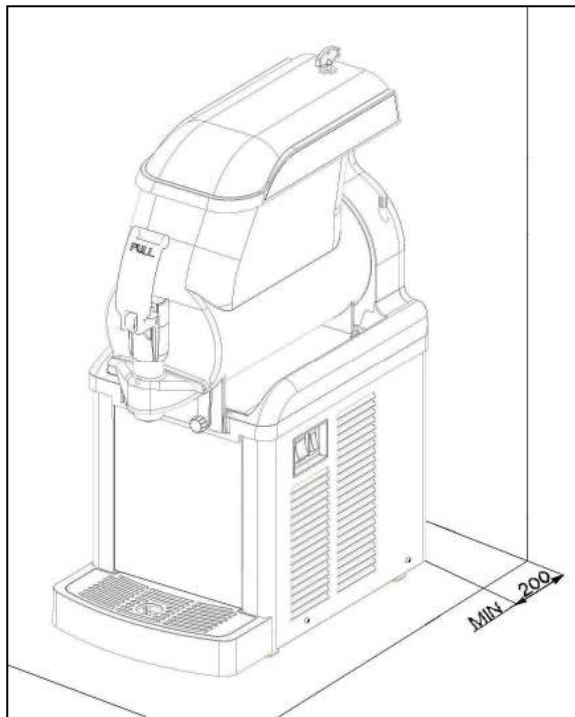

Fig. 2
- c) Rest the machine on a sturdy, flat surface making sure it is well ventilated by leaving a gap of 8 inch around it and do not install it near heat sources (fig.2); **we recommend you to maintain a room temperature between 75 and 90°F.**